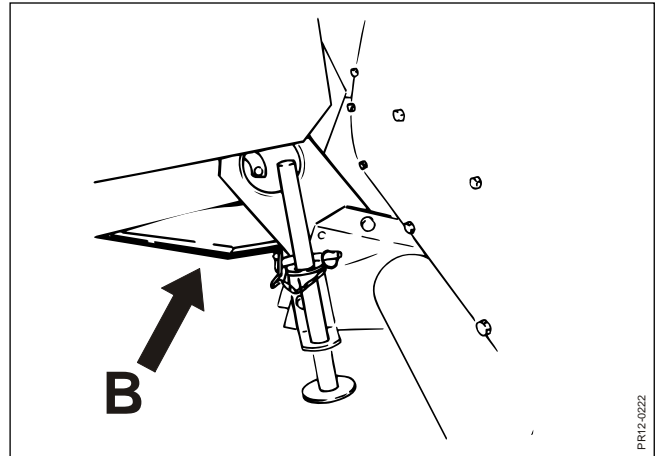

Fig. 4-6
**Fig. 4-6** Under the roller section a bottom plate **B** has been mounted from the factory. This must be mounted when working in very dry and/or short crops to avoid waste under the rollers.